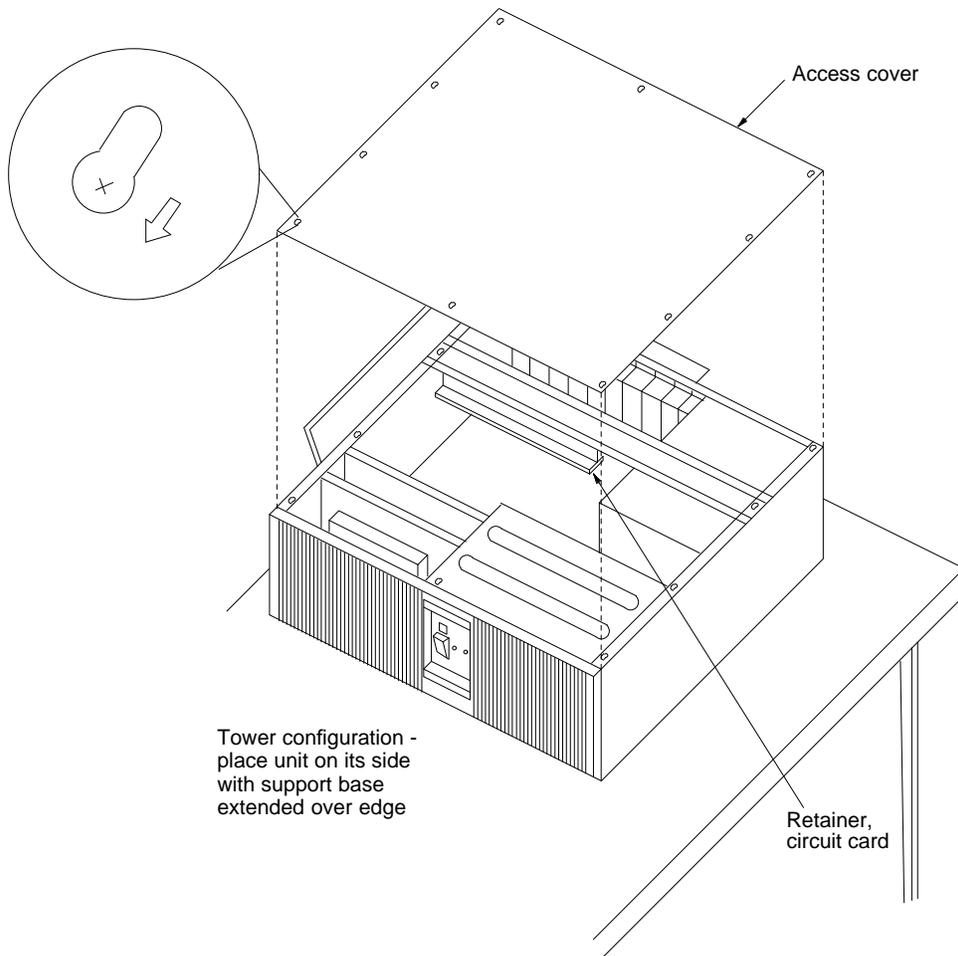

Figure 5-2. Removing the Access Cover
Use a Phillips #2 screwdriver to remove the left access panel in order to reach the circuit card cage. Refer to Figure 5-2 and follow the procedure below:
1. Place the MAP/40 (tower configuration) on its side with the support base over the edge of the table. See Figure 5-2.